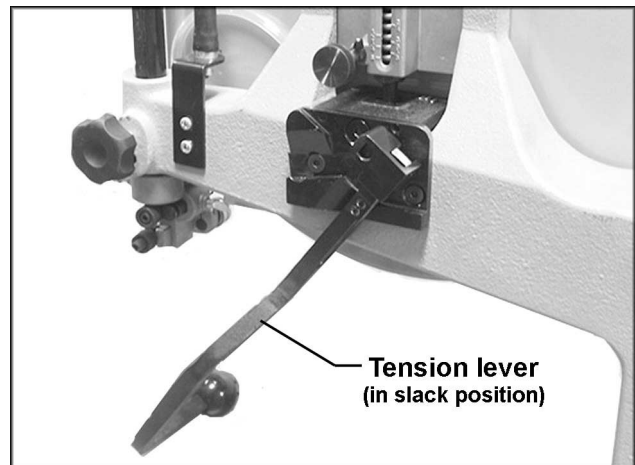

Fig. 24
2. Loosen blade tension with the blade tension lever. Push the tension lever up slightly, then out, and pull it down toward the table, as shown in Fig. 24.
8. Replace table insert and table pin, and raise the blade tension lever (Fig. 24) to tighten the belt again.